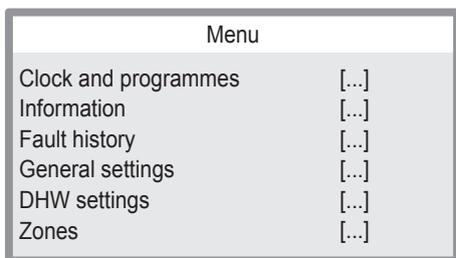

Figure 11.12
- 5 Press button "D" (Figure 11.11) to go to the main menu (Figure 11.12).